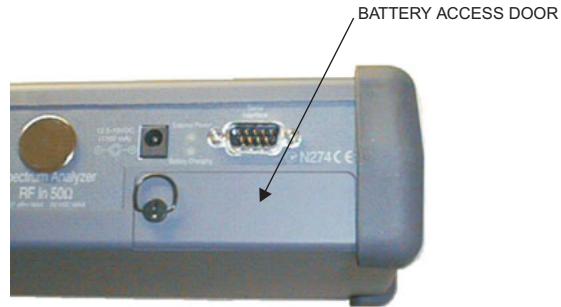

Figure 8. Battery Access Door Location
1. With the Cell Master standing upright on a stable surface, locate the battery access door (Figure 8).